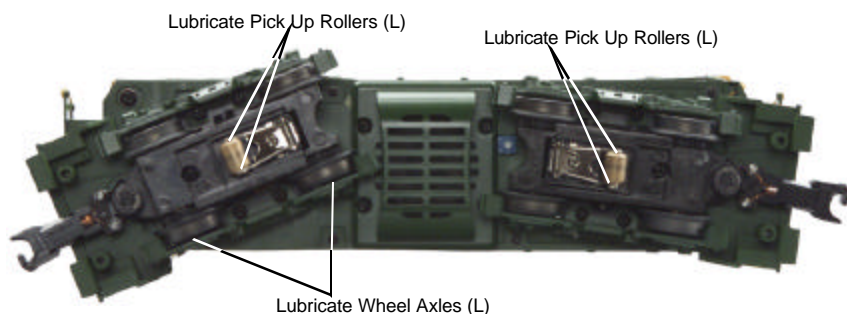
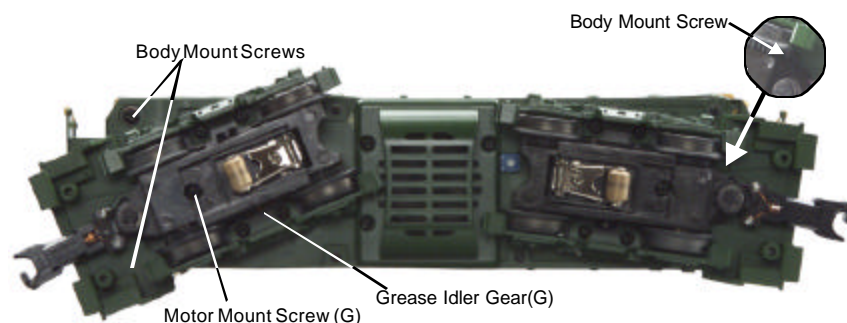

Figure 2. Lubrication Points on the Engine
Figure 3. Body Mount Screws and Greasing Points.
Although the engine was lubricated at the factory, it is important that you lubricate the chassis before operation. Lightly grease the outside idler and drive gears (marked “G” in Fig. 3 on pg. 10) to prevent them from squeaking. Use light household oil and follow the lubrication points marked “L” in Fig. 2 on pg. 10. Do not over-oil. Use only a drop or two on each pivot point.
You should regularly lubricate all outside idler gears and pickup rollers to prevent them from squeaking. Use light household oil and follow the lubrication points marked “L” in Fig. 2. Do not over oil. Use only a drop or two on each pivot point.
1. Remove the Phillips screws from the chassis, as seen in Figure 3, then lift the body away from the chassis. Access the front screw through the hole in the front pilot.
2. Remove the truck blocks from the chassis by unscrewing the black Phillips motor mount screw on the bottom of each truck block, as shown in Figure 3.
It is also a good idea to lubricate the outside truck block idler and drive gears with grease occasionally. Add grease to the points marked with "G" in Figure 3.